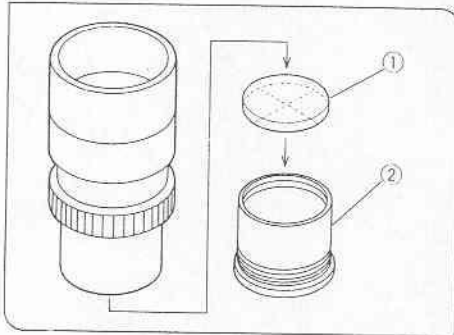

Fig. 48
4 Use of Eyepiece Micrometers (Fig. 48)
(Fig. 48)
Following Fig. 48, unscrew the micrometer frame ② from the eyepiece, place a micrometer ① into the frame. Screw the micrometer frame into the eyepiece as it was before. (Please use $\phi 24 \times 1$ mm micrometers.)